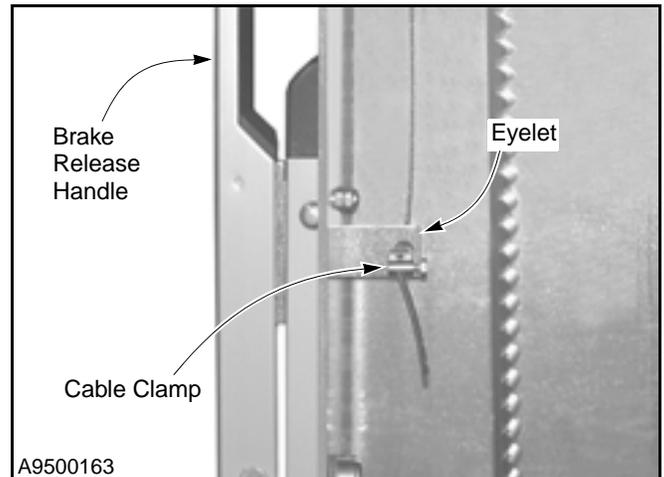

Figure 50
4. Remove and save the cable clamp at the handle end of the cable. Pull the old cable out of the head assembly and side column. Discard the old cable. (See Figure 50.)